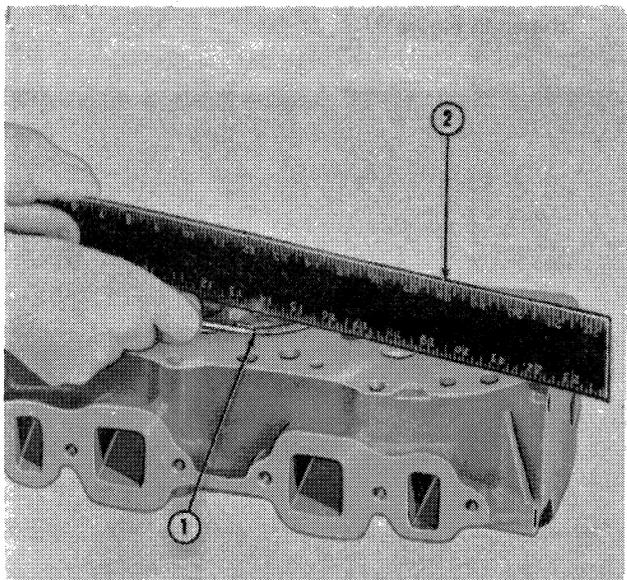

Figure 11
2. With a straight edge and feeler gauge, check the flatness of the cylinder head, as shown in Figure 11. Specifications for flatness are 0.006 in. (0.15 mm.) maximum overall, or 0.003 in. (0.76 mm.) in any six inches (152.40 mm.).